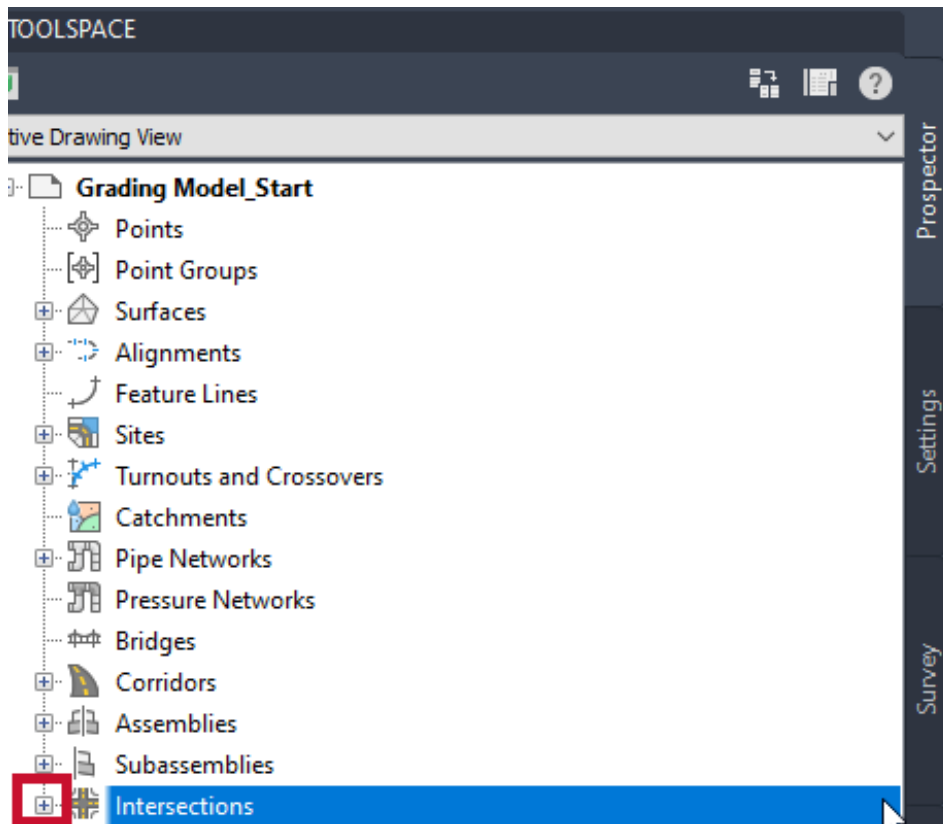

Figure 3.2 – Expand Intersections in TOOLSPACE | Prospector
1. Jumping to our **TOOLSPACE | Prospector** tab, we'll expand our **Intersections** Civil 3D object category (refer to *Figure 3.2*).